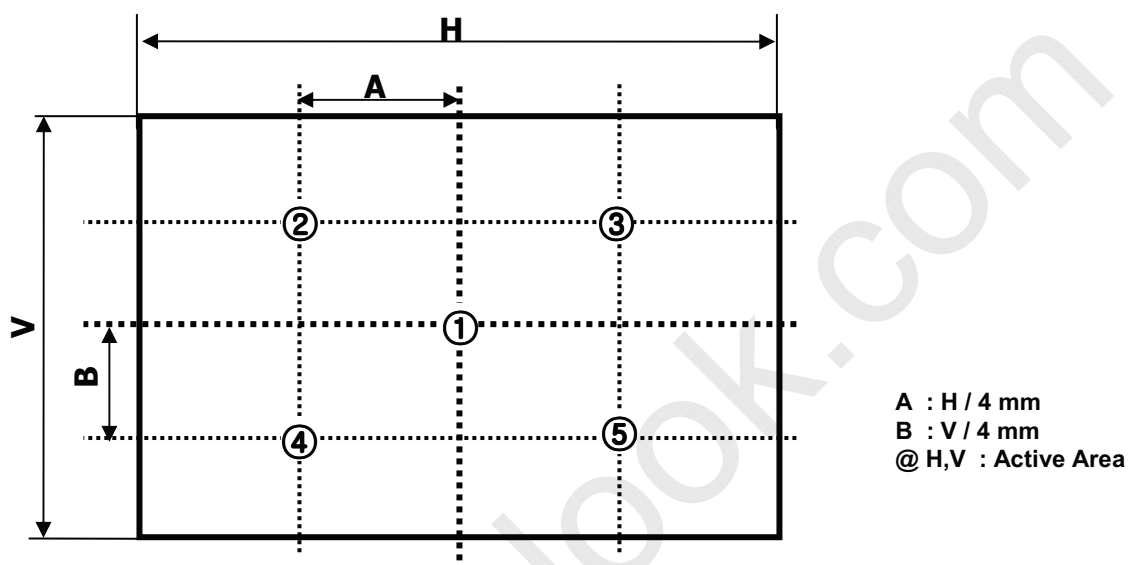

FIG. 2 5 Points for Luminance Measure
2. Surface luminance are determined after the unit has been 'ON' and 30min after lighting the backlight in a dark environment at $25 \pm 2^\circ\text{C}$. Surface luminance is the luminance value at center 1-point across the LCD surface 50cm from the surface with all pixels displaying white. For more information see the FIG. 2.
Where L_{on1} to L_{on5} are the luminance with all pixels displaying white at 5 locations . For more information, see the FIG. 2.